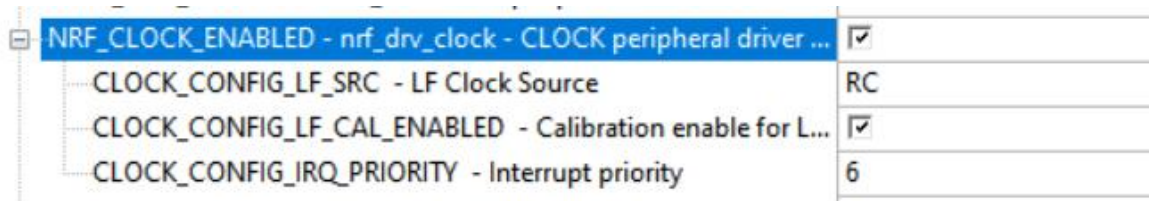

Figure 2-9 NRF_CLOCK_ENABLED
b. Unfold "nRF_Drivers" -> "NRF_CLOCK_ENABLED" Make the changes as shown in Figure 2-9